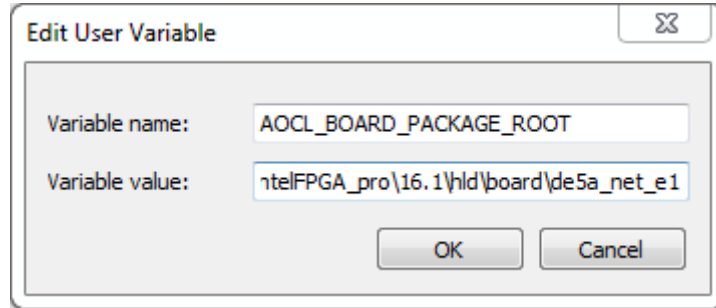

Figure 2-4 Setup AOCL_BOARD_PACKAGE_ROOT Environment Variable
5. In the popup **New User Variable** dialog as shown in Figure 2-4, type **"AOCL_BOARD_PACKAGE_ROOT"** in the **Variable name** edit box and type **"%ALTEAOCLSDKROOT%\board\de5a_net_e1"** in the **Variable value** edit box.